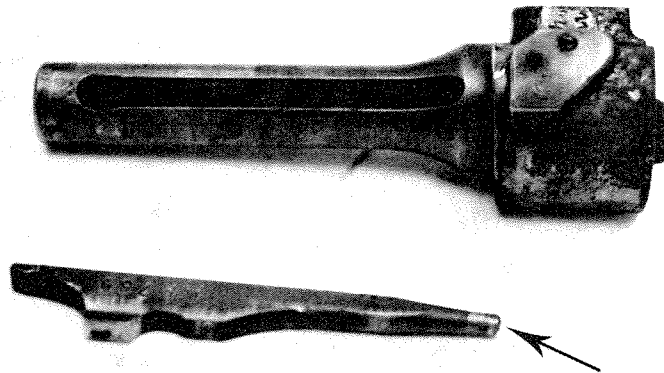
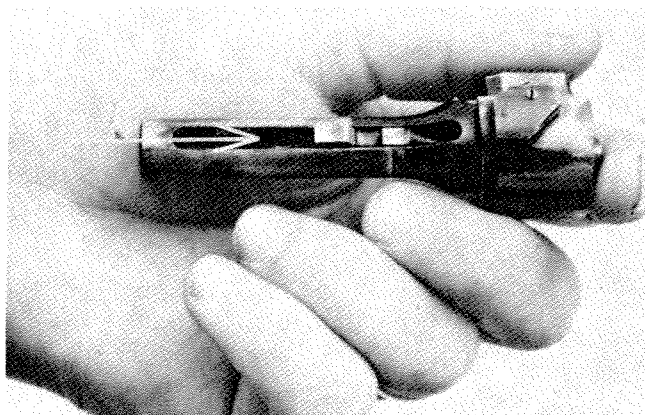

Figure 5-4. Cylindrical portion of the firing pin.
Figure 5-5. Firing pin in the forward position.
d. To replace the firing pin, rotate the bolt with the long groove facing in the upward position. Insert the firing pin while pushing the cylindrical portion (fig. 5-4) of the firing pin forward (fig. 5-5).